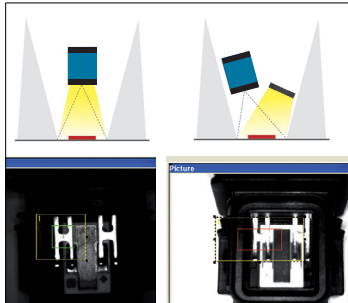

Figure 1: Direct linear lighting
- **direct linear lighting** to eliminate a reflection, on a part, generated by direct light from the sensor (Figure 1).